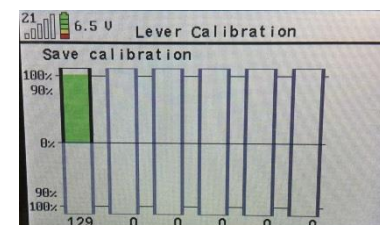

Figure: 22
- Press the ✓ button and you will be taken to the next screen. It says 'Save calibration'. If you now operate a lever, the bar will turn green again in the direction you have chosen. At the maximum forwards or backwards position, the green bar will fill to 100%. If everything is working properly, press the ✓ button and the settings will be saved (see figure 22).